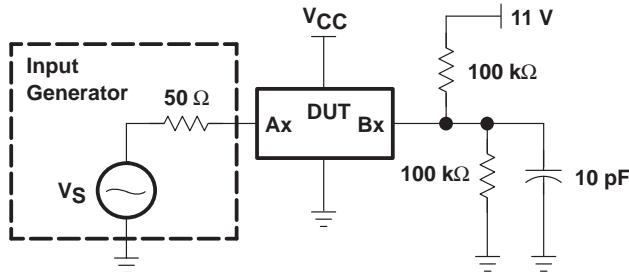

Figure 1. Device Test Setup
**undershoot characteristics (see Figures 1 and 2)**